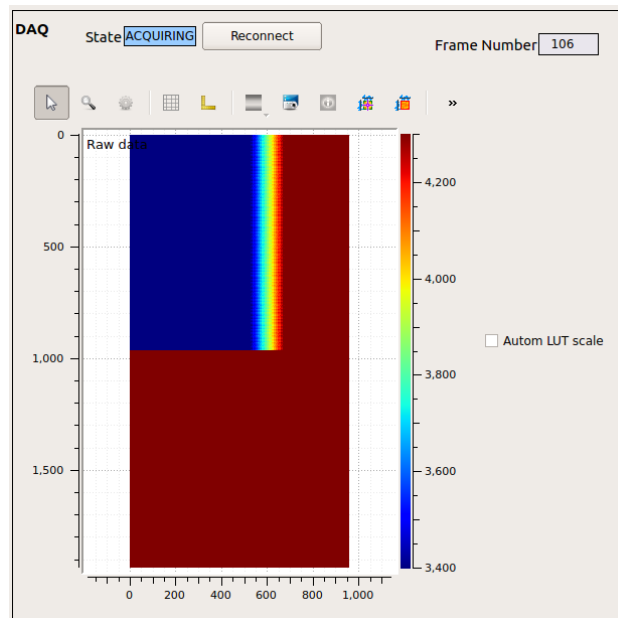
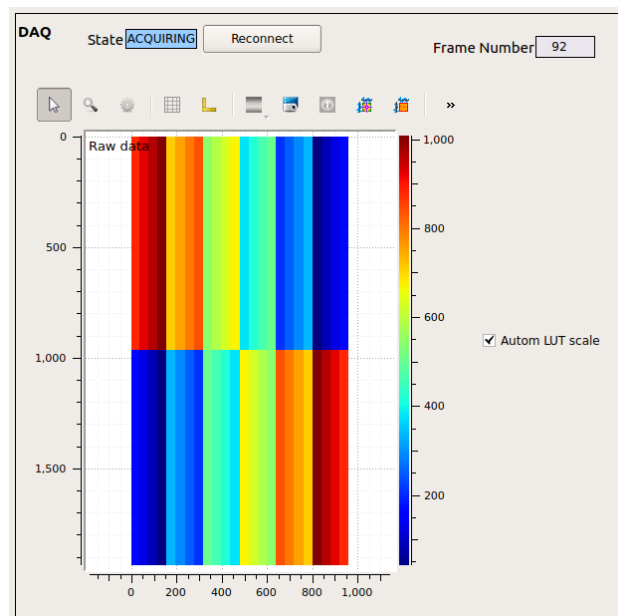

Fig. 6.2: The fCRICS test pattern may appear like this if you have fixed the z-axis color scale centered around the offset (in this case 3400-4300).
Fig. 6.3: The raw preview will look like this if the Fiber Optics test pattern is on.
**The raw data is a test pattern** If, after resetting the color scale, the raw preview looks like Fig. 6.3, it means that the Fiber Optics test pattern is on; you can turn the FO test pattern off using the “FO pattern off” button in the FCCD control device. If the preview looks like figures Fig. 6.1 or Fig. 6.2, it means that the fCRICs are not configured correctly; turn the triggers off and send the fCRIC configuration file again.